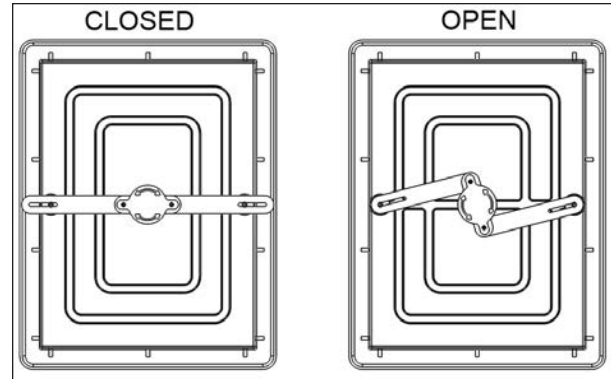

FIGURE 69: ESCAPE HATCH RELEASE MECHANISM
1. On the escape hatch, check if the release mechanism is working well. Make sure that the hatch arms are retracted when open and non-retracted when closed, see Figure 69.